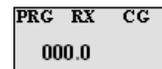

Figure 6
7. The LCD will display "PRGRXCG 000.0" for programming the **RX Code Guard**. (See Figure 6) Press the "CLR" key to clear the tone and enter a valid tone using the keypad and press the "ENT" key.